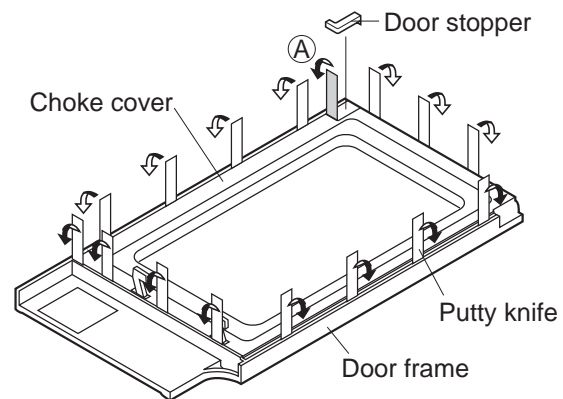

Figure C-3. Door Disassembly
4. Remove the two (2) screws holding the hood exhaust louver to the oven cavity front face plate.
6. Insert a putty knife (thickness of about 0.5mm) into the gap A between the door stopper and the choke cover as shown in Figure C-3 to free engaging parts.
8. Insert a putty knife (thickness of about 0.5mm) into the gap A between the choke cover and door stopper and between the choke cover and the door frame as shown Figure C-3 to free engaging parts.
9. Pry the choke cover by inserting a putty knife in order shown in Figure C-3.